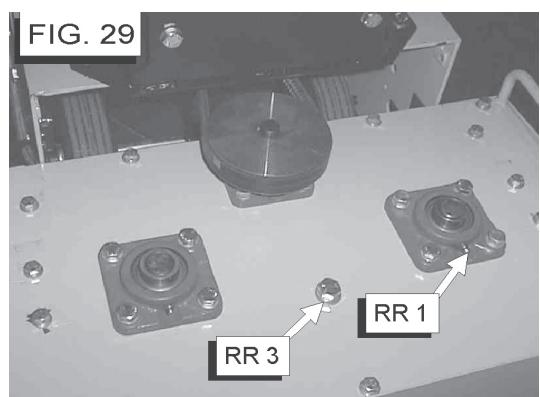

FIG. 29
| T3. | Washer, 3/8 SAE.  | RR1.  | Spindle Bearings [Six (6) Places] [FIG. 29].                     |
| V.  | Wrench, 1/2" (13 mm) x 3/4" (19 mm) [FIG. 8]  | RR3.  | Gearbox Grease Port [FIG. 29].                                   |